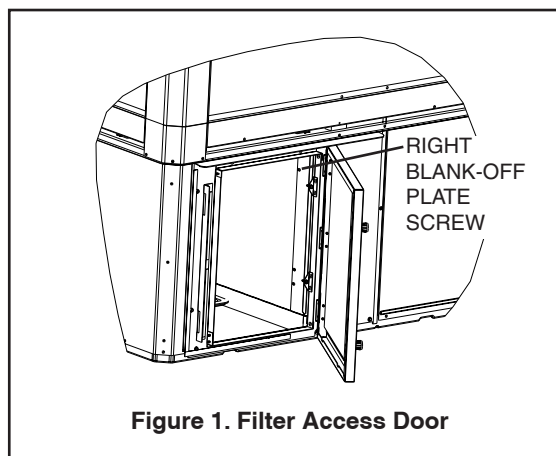

Figure 1. Filter Access Door
1. Open or remove the Filter Access Door. See Figure 1.
- a. Remove the screw from the top of the right coil blank-off plate just inside the Coil Access opening, see Figure 1.